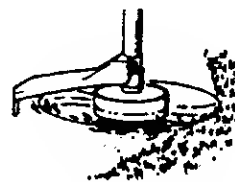

Figure 15
3. **MOWING** - Figure 15. Your trimmer is ideal for mowing in places conventional lawn mowers cannot reach. In the mowing position, keep the line parallel to the ground. Avoid pressing the head into the ground as this can scalp the ground and damage the tool.